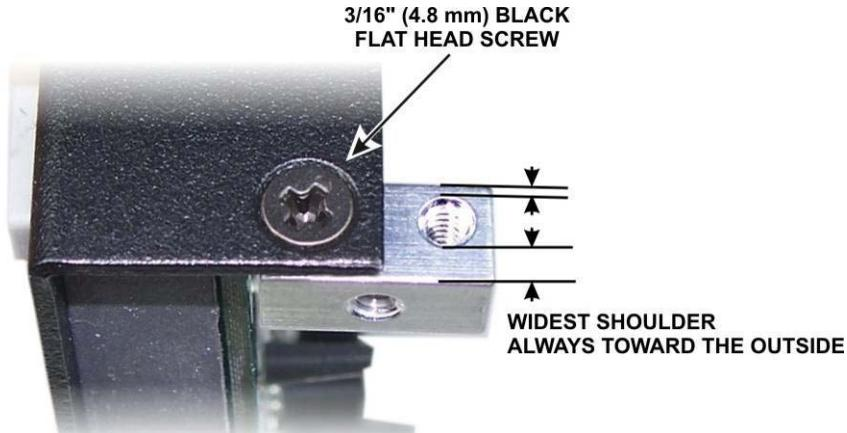

Figure 7. Installing 2D Fasteners.
- Mount a 2D fastener at the top of the front panel assembly as shown in Figure 7. Do not use a lock washer. The 2D fasteners must always be oriented so the wide side of the fastener is toward the outside as shown. Tighten the fastener only enough to hold it in place. You will be loosening and adjusting all of the enclosure screws later as you finish the assembly and adjust the fit of all the panels.
- Mount a 2D fastener in the screw holes in the back cover top and bottom flanges just as you did for the front cover (see Figure 7 on page 58), using flat head screws in the counter sunk holes on the top flange and pan head screws on the bottom flange. Be sure each fastener is oriented correctly with the widest shoulder toward the outside edge of the panel as shown in the figure.
The P3 uses Elecraft's unique 2D fasteners which allow you to remove the top, bottom, front, rear, either side or any combination of panels independently. The fasteners are shown in Figure 7 on page 58.